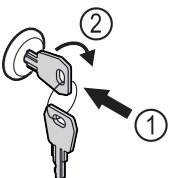

Fig. 133
- ▶ Insert key Fig. 133 (1).
- ▶ Turn key clockwise by 90° Fig. 133 (2).